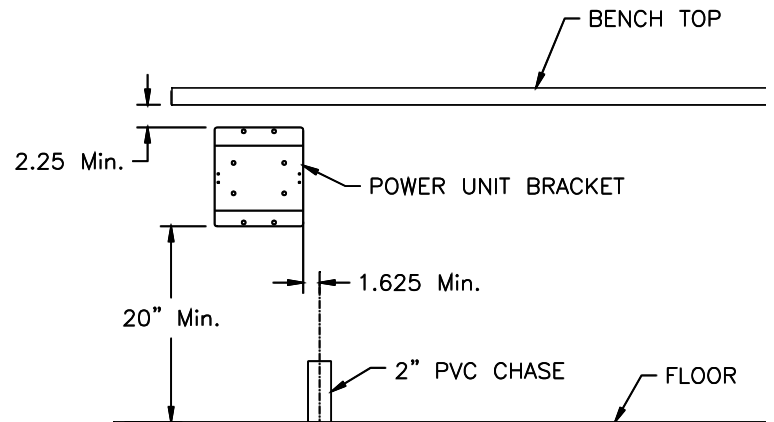

Fig 2 – Power Unit Bracket Location
- 1) Mount the Power Unit Bracket on the wall under the workbench using Fig 2 as a guide for the minimum clearance dimensions. Use anchors (not Included) suited for the wall material.